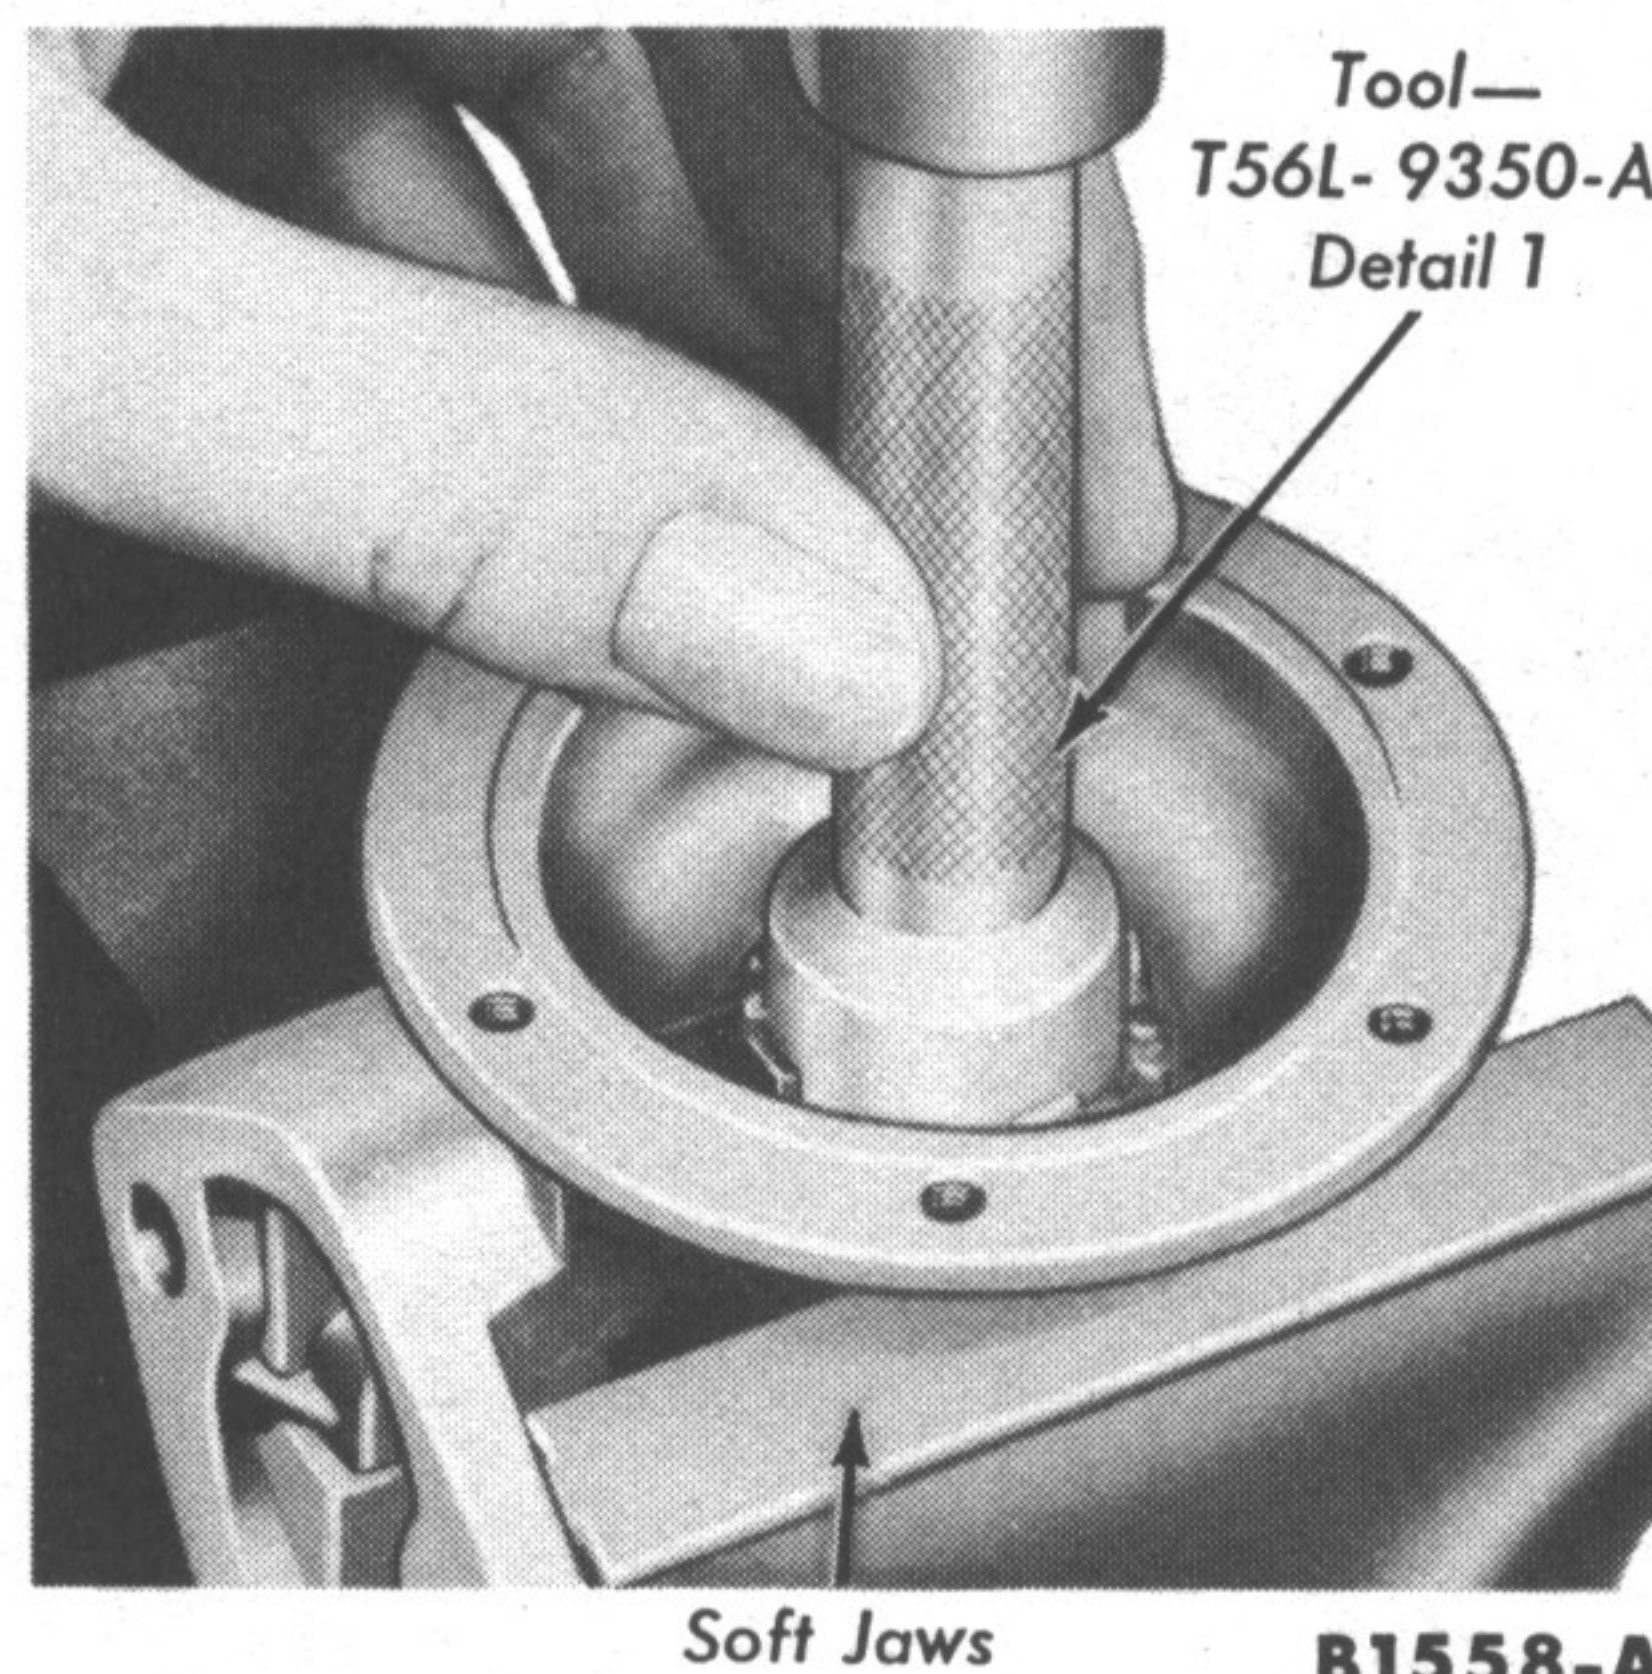

FIG. 33—Diaphragm Rod Oil Seal and Retainer Installation
1. Install a new diaphragm rod oil seal and retainer using Tool T56L-9350-A, Detail 1 (Fig. 33). Stake the retainer at four points.